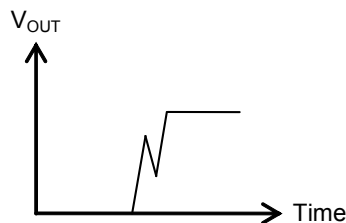

Figure 16
- Caution 1.** When the CD pin is open, a double pulse shown in Figure 16 may appear at release. To avoid the double pulse, attach 100 pF or larger capacitor to the CD pin. Do not apply voltage to the CD pin from the exterior.